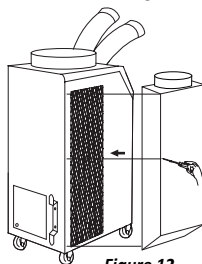

Figure 12
3. Use screws (enclosed inside of box with air adapter) to install the adapter on the air conditioner as shown in Figure 12.